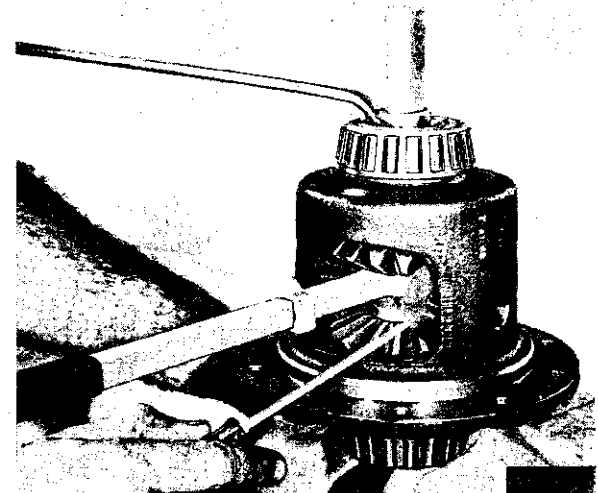

FIG. N-61—INSTALLING PINION MATE WASHERS
- p. Assemble washers into case. Use a very small screw driver to push washers into place, as shown in Fig. N-61.